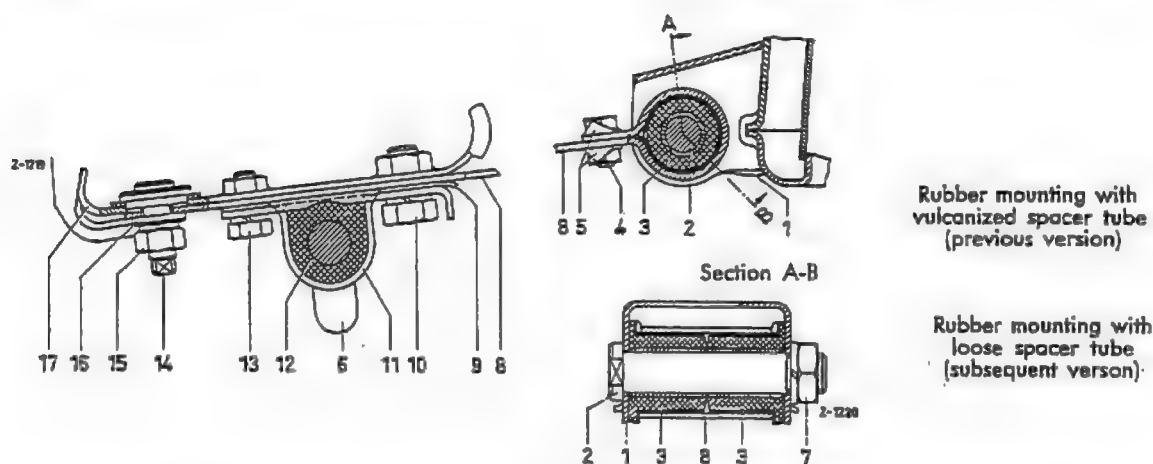

Fig. 33-1/8
18. Lift the front axle support inserting the flat springs (8) on the left and right into the bearing bracket (1) on the front axle support (Fig. 33-1/8).
19. Screw out the guide pins from the rubber mountings for the front axle support. Then screw in and tighten the four hexagon screws for fixing the rubber mountings right and left to the chassis base panel (Fig. 33-1/5).
20. Fit the bolts (2) for the flat springs for the longitudinal support of the front axle support at the left and at the right and tighten the hexagon nut (7) with the prescribed torque (Fig. 33-1/8).